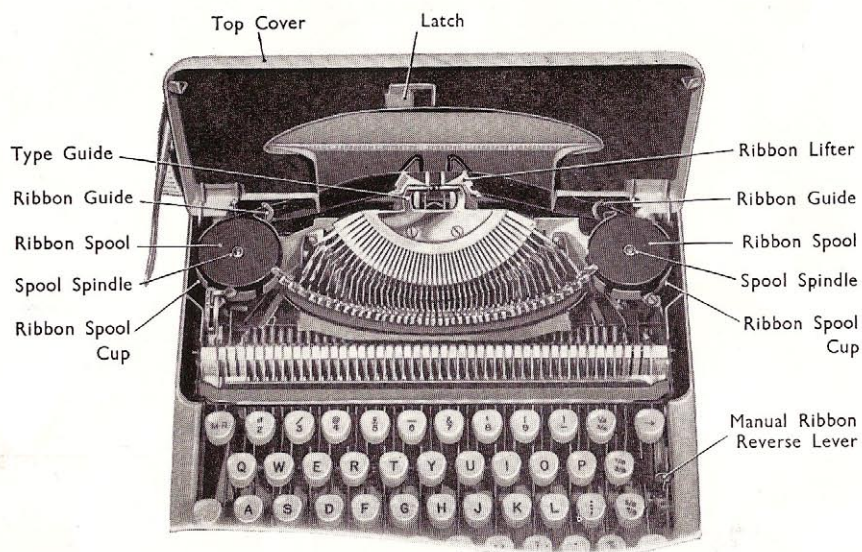

Figure 6
**MOVE THE CARRIAGE TO THE EXTREME LEFT.** Swing the cover plate up to raised position as in Fig. 6. Save one old spool for use on the left. Be sure to save the U-shaped metal clip that held the ribbon on the old spool. Place the new ribbon and spool on the right. Unwind about two inches of the new ribbon and slip the spool way down on the right hand spindle so about  $\frac{1}{8}$  inch of the spindle shows above the spool. Set the manual reverse lever in the forward position and turn the spool counter-clockwise with a little downward pressure. The ribbon must wind from the back of the spool.